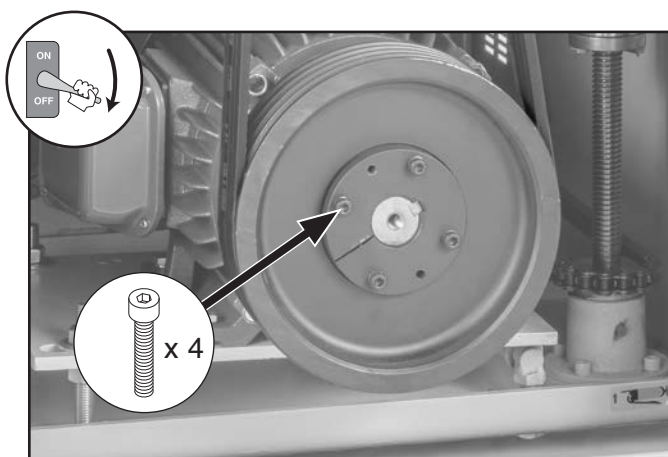

Figure 80. Location of motor pulley fasteners.
2. Equally loosen (4) cap screws on motor pulley (see **Figure 80**).